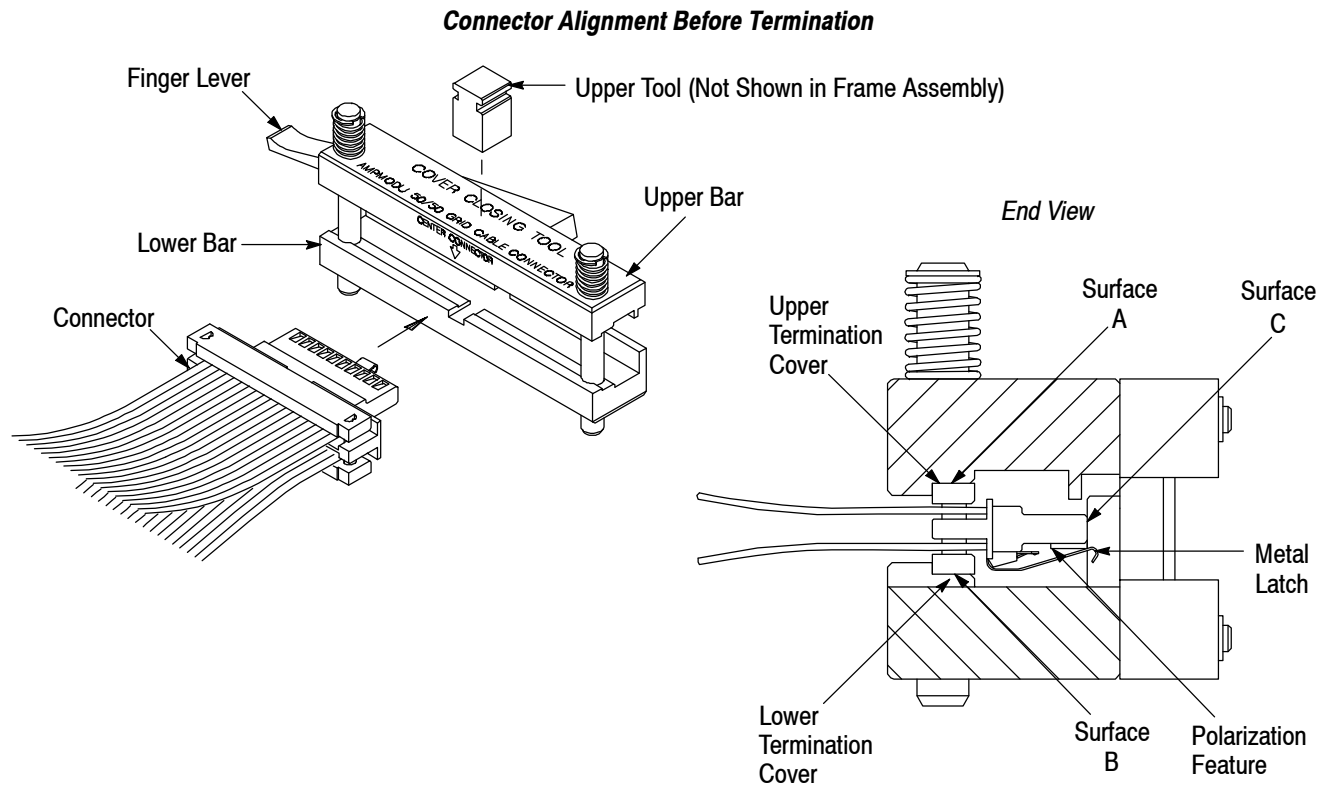

Figure 4
4. Depress the finger lever and insert the connector (centered) into the lower tool assembly between the upper and lower bars. See Figure 4. The connector is properly located if the upper and lower termination covers rest on the "A" and "B" surfaces, the front of the connector is against the "C" surface of the inside of the lower tool assembly, and the connector metal latch or polarization feature is facing down.